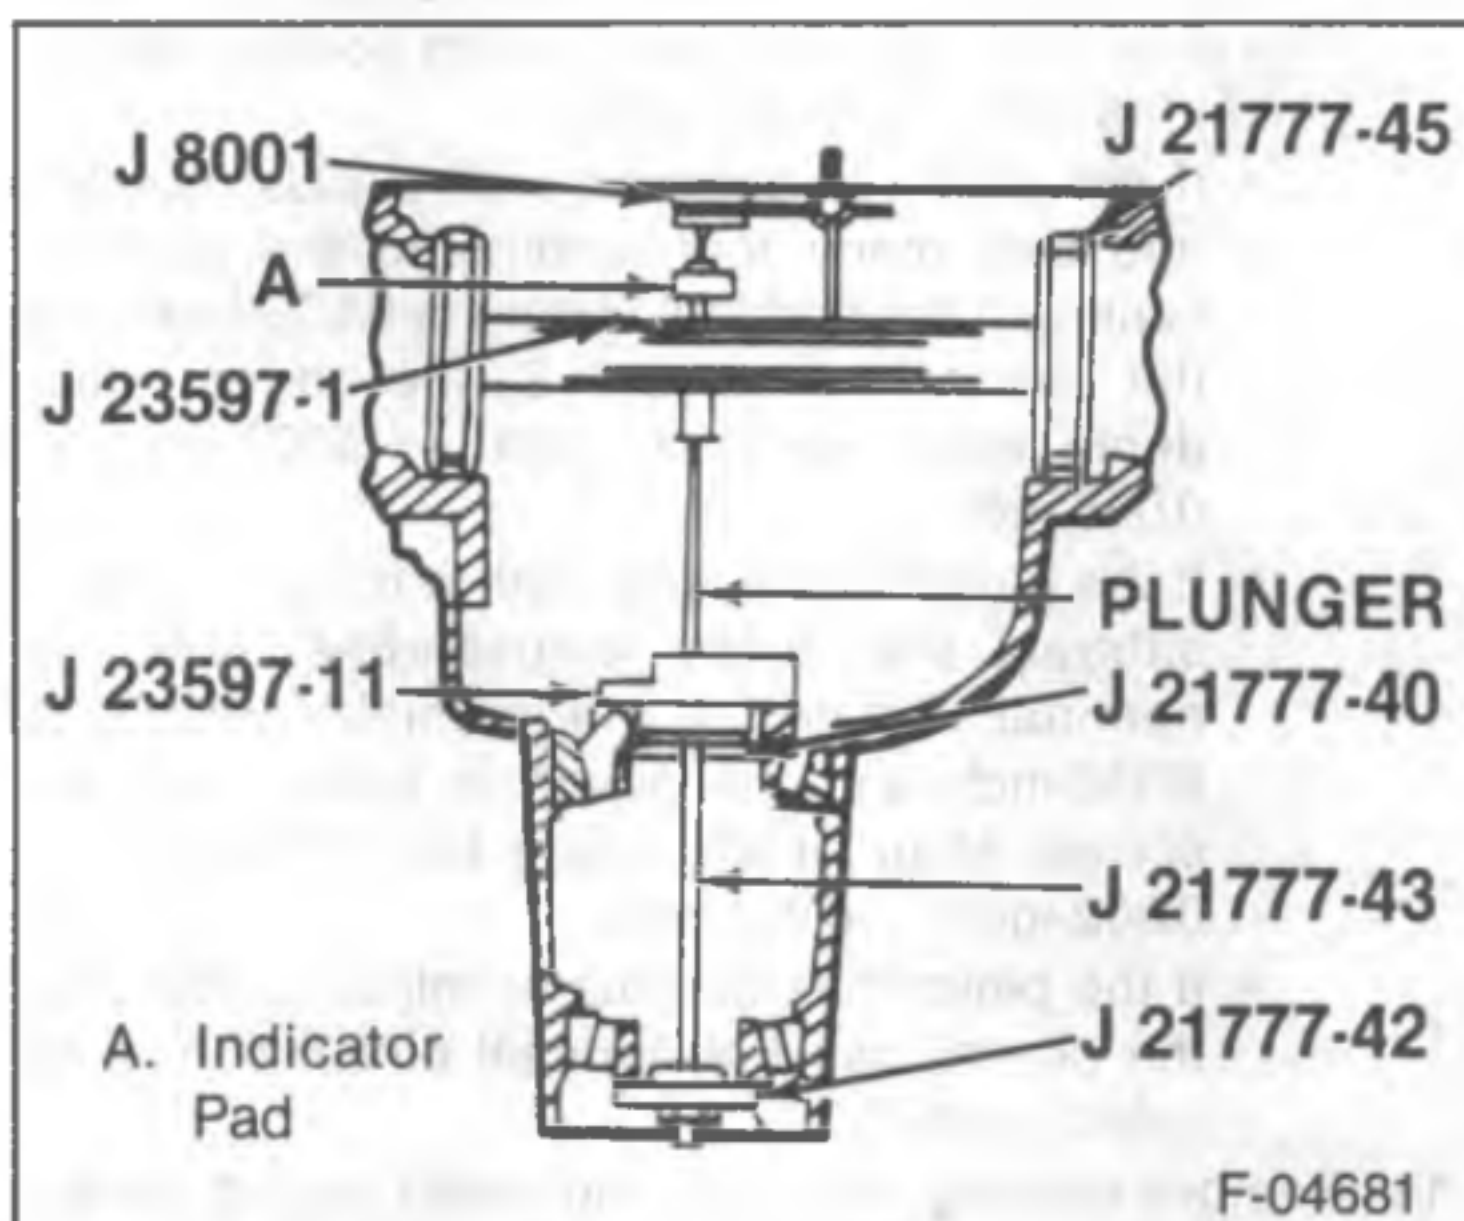

Figure 9—Pinion Depth Tools
PINION DEPTH ADJUSTMENT (Figure 9)
3. Place the bearings (15) and (18) into the pinion bearing cups.
4. Install J 21777-40, J 21777-42, J 21777-43 and J 23597-11 to the pinion bore (figure 9).
8. Assemble J 21777-45, J 23597-11, and J 8001 to the differential bearing bores as shown in figure 9.